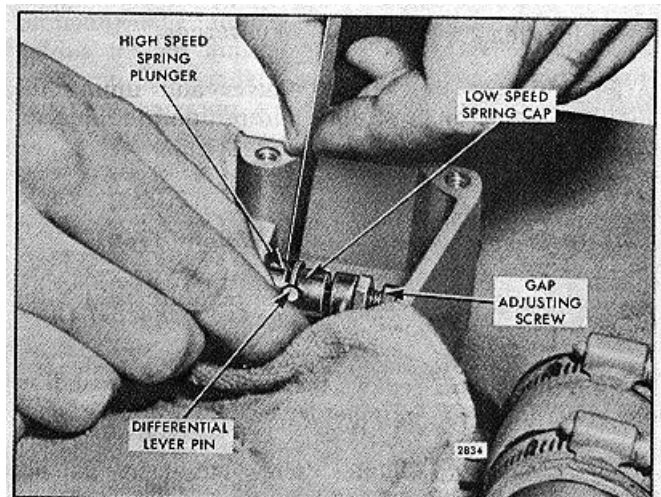

FIG. 4 Adjusting Governor Gap (Double-Weight Governor)
6. Check the gap between the low-speed spring cap and the high-speed spring plunger (Fig. 4) with a feeler gage. The gap should be .002"-.004". If the gap setting is incorrect, reset the gap adjusting screw.